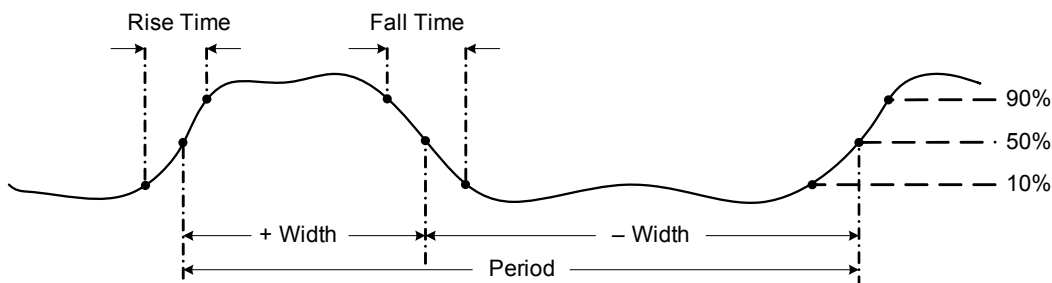

Figure 2-26 Frequency definition
- Frequency is the number of cycles a signal completes each second. Frequency is defined as 1/Period. Period is defined as the time between the middle threshold crossings of two consecutive, like-polarity edges, as shown in Figure 2-26.